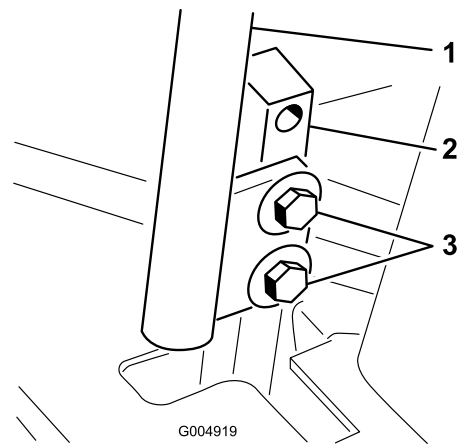

Figure 55
- Loosen the bolts securing the control levers (Figure 55)